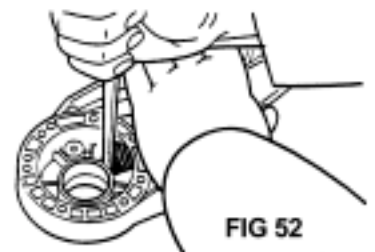

FIG 52
1. Pull worn parts out and replace with new (Fig 52) on main handle mouth.
6. Using a screwdriver, lever pinion firmly back onto bearing locating screw and tighten nut (Fig. 52 & 53).